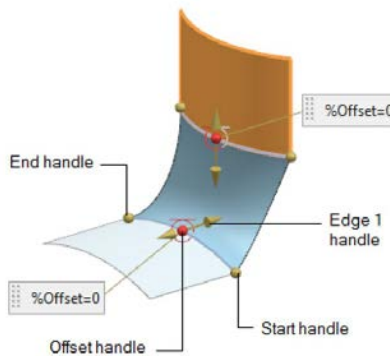

Figure 11-39 The preview of the bridge surface with the handles
4. Next, you need to specify the tangent value to change the surface as per requirement. You can specify the tangent value using the **Edge 1** and **Edge 2** edit boxes in the **Tangent Magnitude** sub-rollout. Alternatively, use the **Edge 1** and **Edge 2** slider bars to specify the tangent value. You can also use the **Edge 1** and **Edge 2** handles to specify the tangent value, refer to Figure 11-39.
You can use the handles displayed on the edges of the bridge surface to change its size and shape, refer to Figure 11-39. Alternatively, you can use the options available in the **Edge Limit** sub-rollout to modify the bridge surface. Choose the **Edge 1** tab from this sub-rollout to modify the Edge 1.